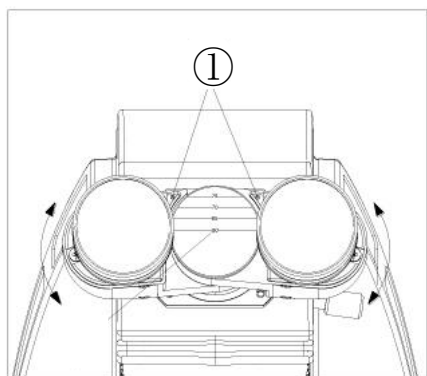

Fig. 12
Where “.” ① on the eyepiece tube lines up, then that is the number for the interpupillary distance. Range: 50~75mm. (Fig. 12).